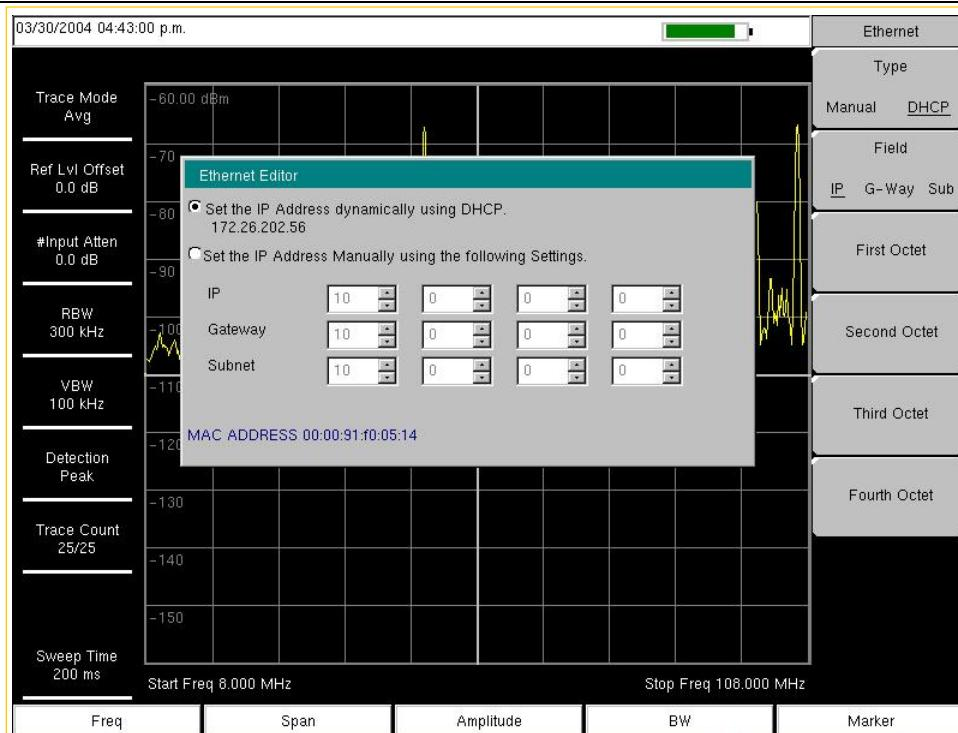

Figure C-1. IP Address Assigned Using DHCP
To display the IP address with the instrument on, press the **Shift** key, then the **System** (8) key, then the **System Options** submenu key and the **Ethernet Config** submenu key. The IP address will be displayed as shown in Figure C-1. The image on the display panel of your Spectrum Master may differ from the image shown here.